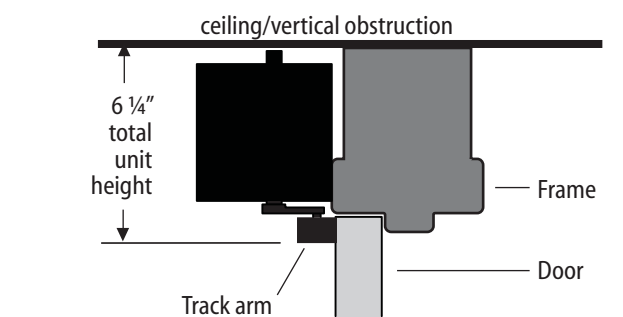

Figure 2 — Side view of door, frame and installed operator
- 3 Make sure that a minimum clearance height of 6 1/4" (172 mm) from ceiling to door mounting surface is unobstructed. Also make sure that the reveal is not greater than 1/8" (3 mm) or less. See Figure 2.